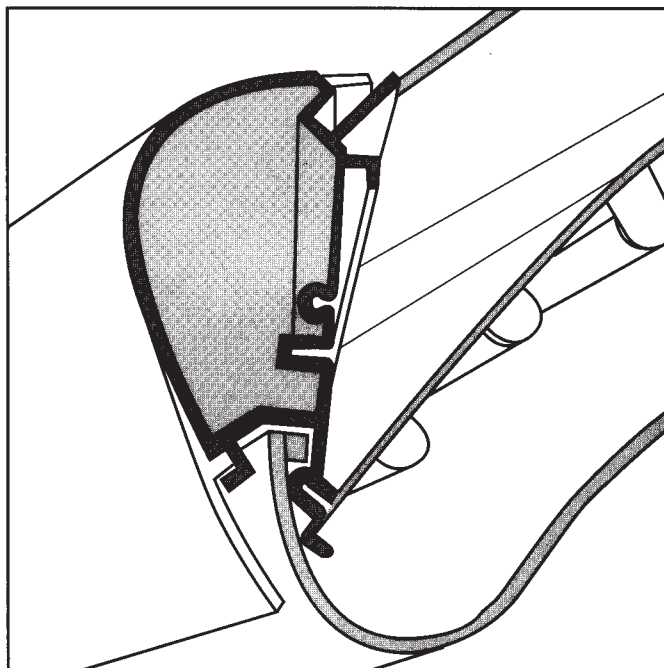

fig. 5
When assembling the acrylic sheet (17), make sure that the edges are properly inserted behind the aluminium profile (fig. 5).